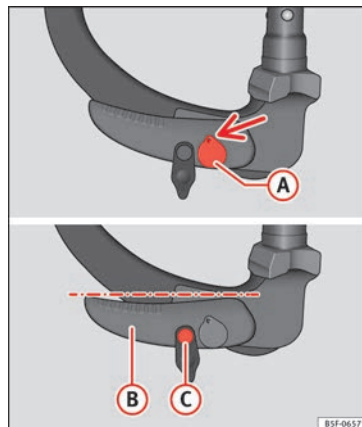

Fig. 225 Standby position: Position of the lever and the release bolt.
- Key (A) »» Fig. 225 is in the released position (the part of the key with the holes is facing upwards).
- Lever (B) »» Fig. 225 is in the bottom position.
- The release bolt (C) »» Fig. 225 can be moved.